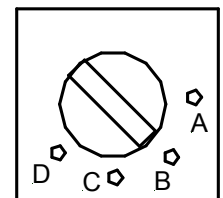

Figure 1. – Illustration of S1 Switch Positions
3. Using a small flat-head screwdriver, set the position of the S1 Switch on the LED Driver, per the setting shown in Table 1 (Refer to Figure 1 on page 4 for illustration of S1 Switch positions).